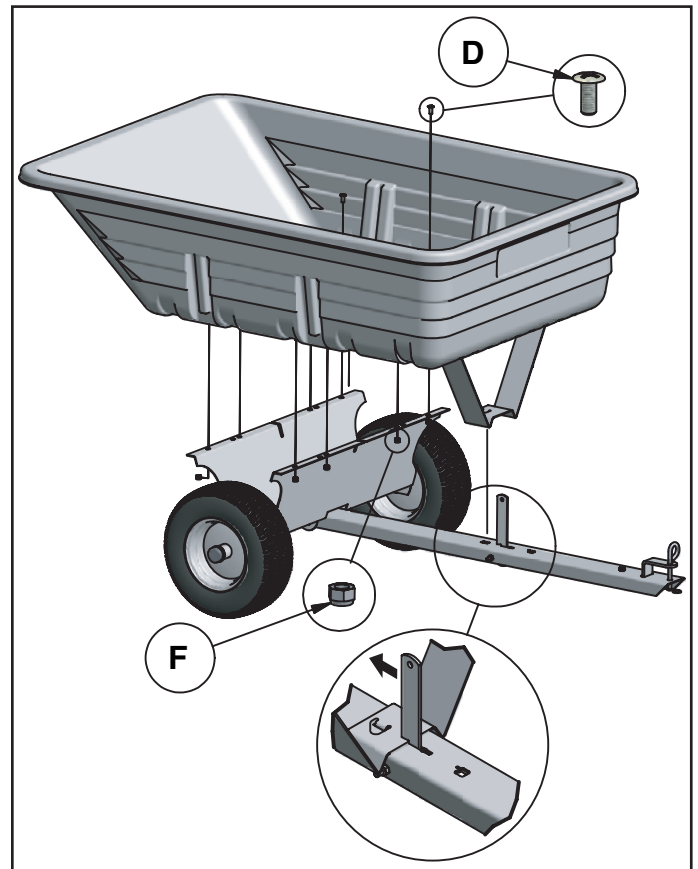

FIGURE 7
STEP 7: (SEE FIGURE 7)
- Place the tray onto the wheel support and position it so that the latch stand bracket locks into the latch lock lever. Fasten the tray to the wheel support using eight truss head bolts (D) and hex nuts (F). **Tighten.**